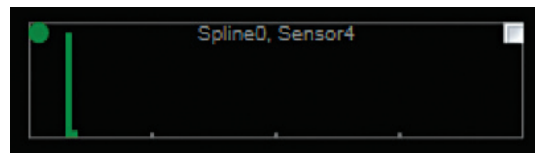

Figure D-4. Example of a static range difference throughout AcQMap Catheter or SentiCath Catheter rotation.
4. No targets should report the same range throughout a rotation of the AcQMap Catheter or SentiCath Catheter. (Figure D-4).